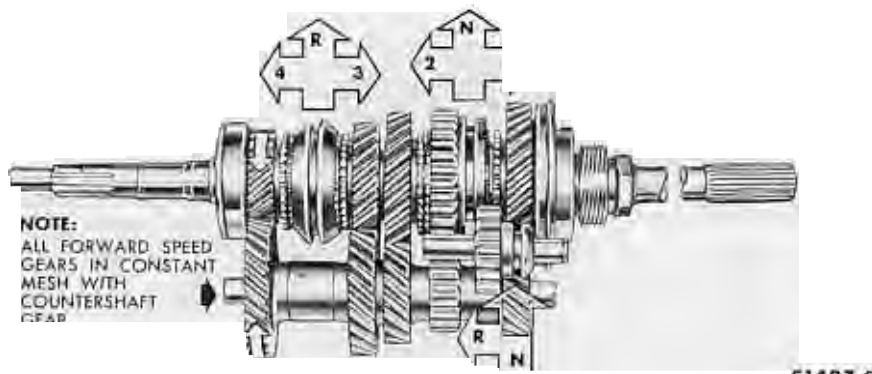

FIG. 2—Power Flow—4-Speed Transmission
1. The Dagenham four-speed transmission (Fig. 1) is of the fully synchronized type, with all gears except the reverse sliding gear being in constant mesh. All forward speed changes are accomplished with synchronizer sleeves (Fig. 2) instead of sliding gears. The synchronizers will enable quicker shifts, greatly reduce
The forward speed gears are helical-cut and are in constant mesh (Fig. 2). Gears used in the reverse gear train are spur-cut and are not synchronized.
U-joint bearing races in place if the joint does not have a strap spot welded to it. Pull the driveshaft off the transmission and insert the tool shown in Fig. 2, Part 6-1 into the seal and extension housing to prevent lubricant leakage.